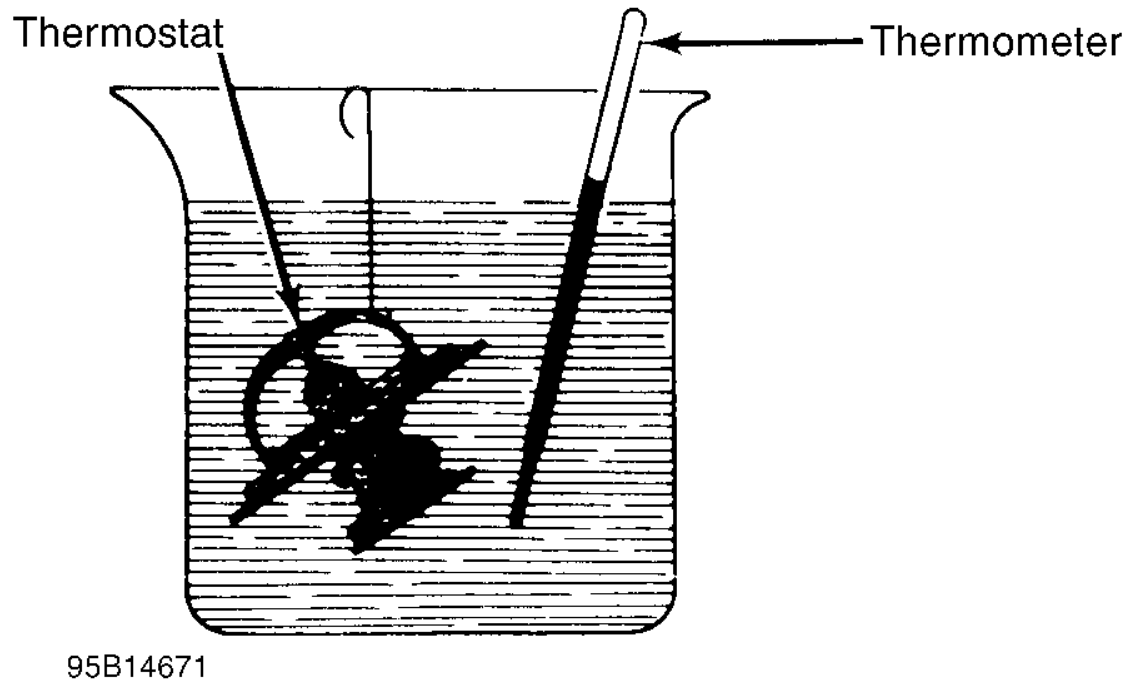

Fig.1: Testing Thermostat in Coolant/Water Solution
1. Remove and inspect thermostat for corrosion and proper seating of valve. If okay, suspend thermostat and thermometer in a 50/50 mixture of coolant and water. See Fig.1. DO NOT allow thermostat or thermometer to touch bottom or container. Heat water until thermostat begins to open.